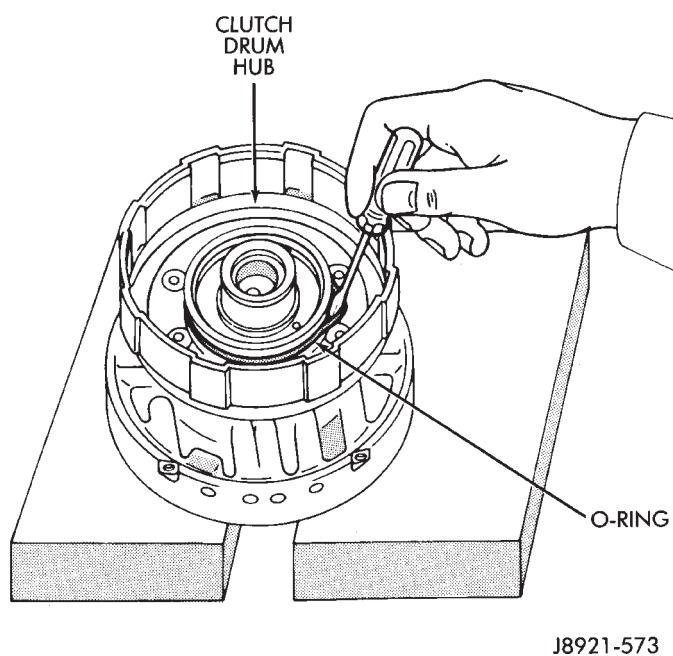

Fig. 7 Removing/Installing Clutch Drum O-Ring
(4) Mount clutch drum on overdrive support.
(5) Lubricate and install new O-ring on clutch drum hub (Fig. 7).
(6) Lubricate and install new O-rings on clutch piston and install piston in drum.